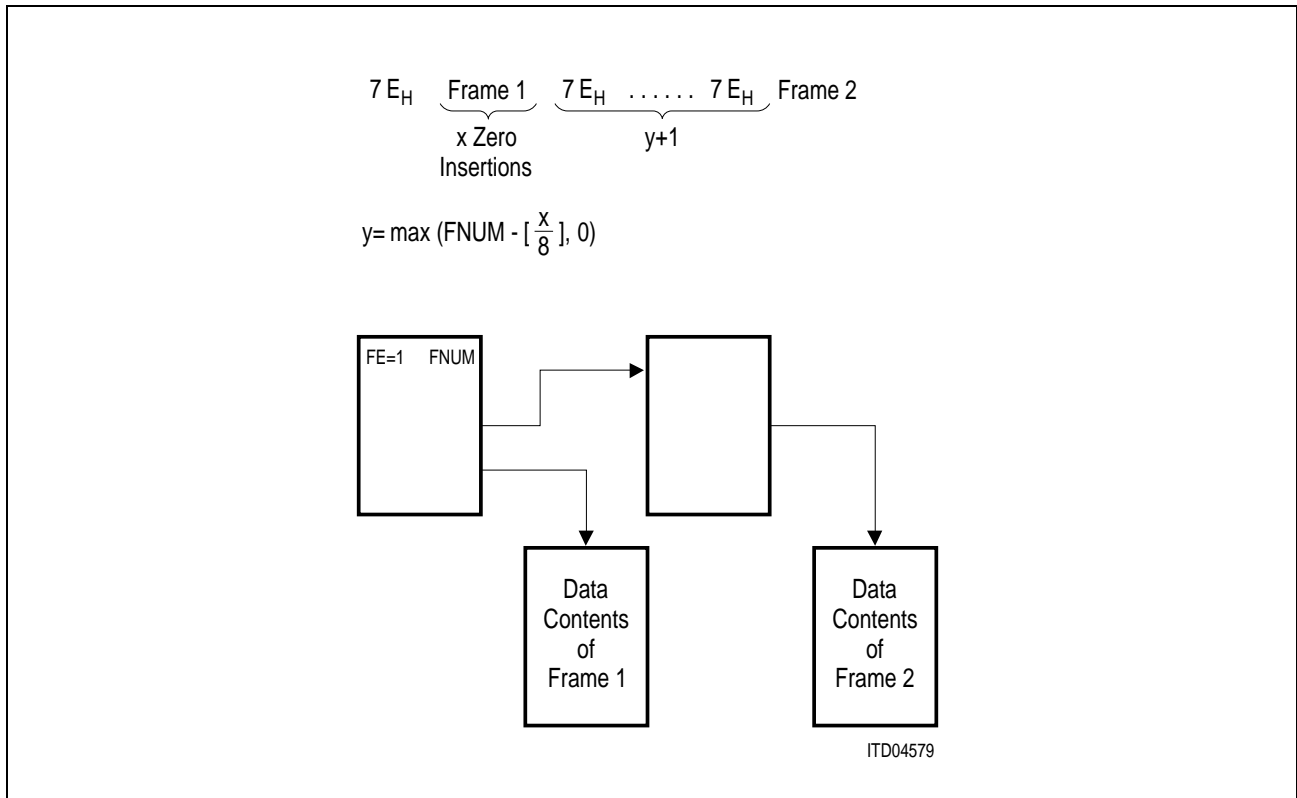

Figure 30
- FA = 1: FNUM from the transmit descriptor is reduced by $\frac{1}{8}$ of the number of the zero insertions of the frame corresponding to the transmit descriptor as shown in **Figure 30**. This allows transmission of long HDLC frames for a constant bit rate